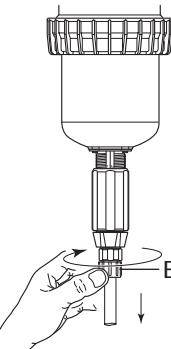

Fig. 16
- Unscrew the nut (Fig. 16-E) and pull downwards to remove the suction hose (Fig. 17-T).